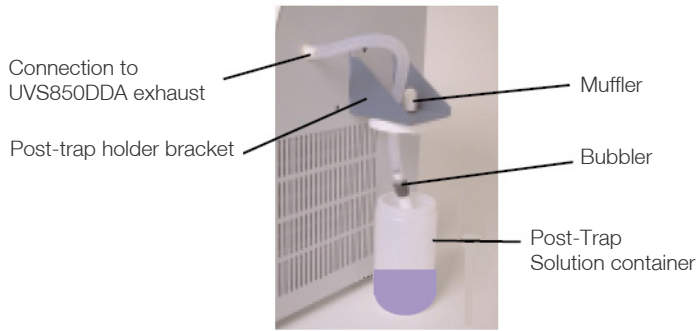

Figure 2. post trap assembly
- Attach the post trap assembly onto the right hand side of the unit by sliding the connection bracket in a downward motion (Figure 2).